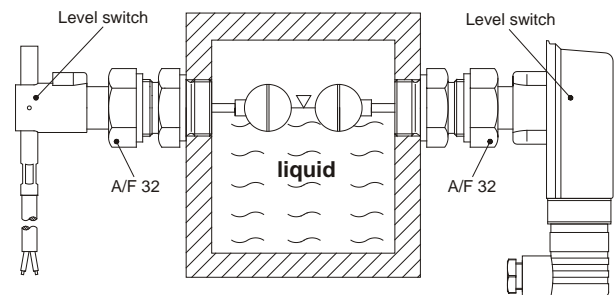

Fig. 3
- ↪ Install the level switch as shown in Fig. 3.